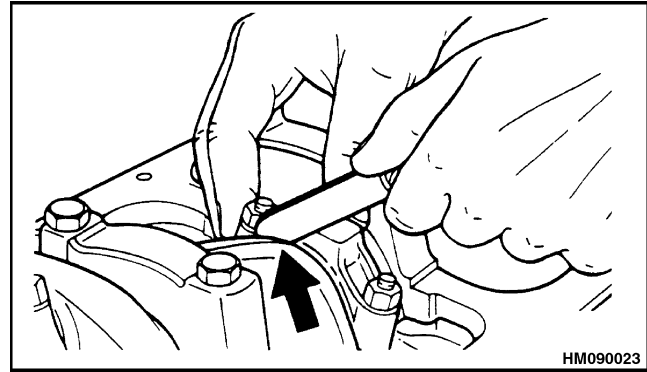

Figure 42. Piston Rods Side Clearance Measurement
- b. Measure the clearance between the caps for the piston rods and the crankshaft. See Figure 42.